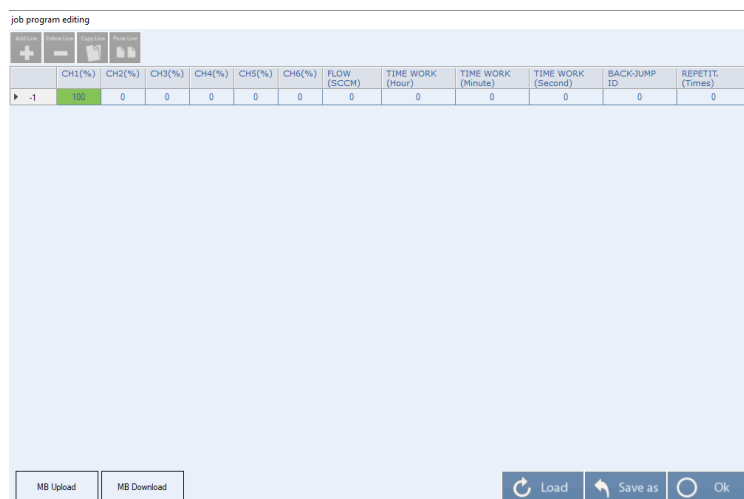

Figure 5-32
2. After the launch, the **"Job program editing"** start screen will be displayed as shown in the example below. (Figure 5-32)